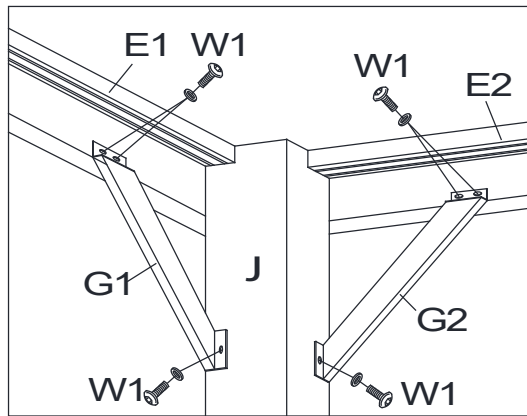

Fig.4
4. Attach the Left Support Bar (G1) to Left Lintel (E1) and Post (J) with Bolt (W1); attach the Right Support Bar (G2) to Right Lintel (E2) and Post (J) with Bolt (W1). See Fig.4.